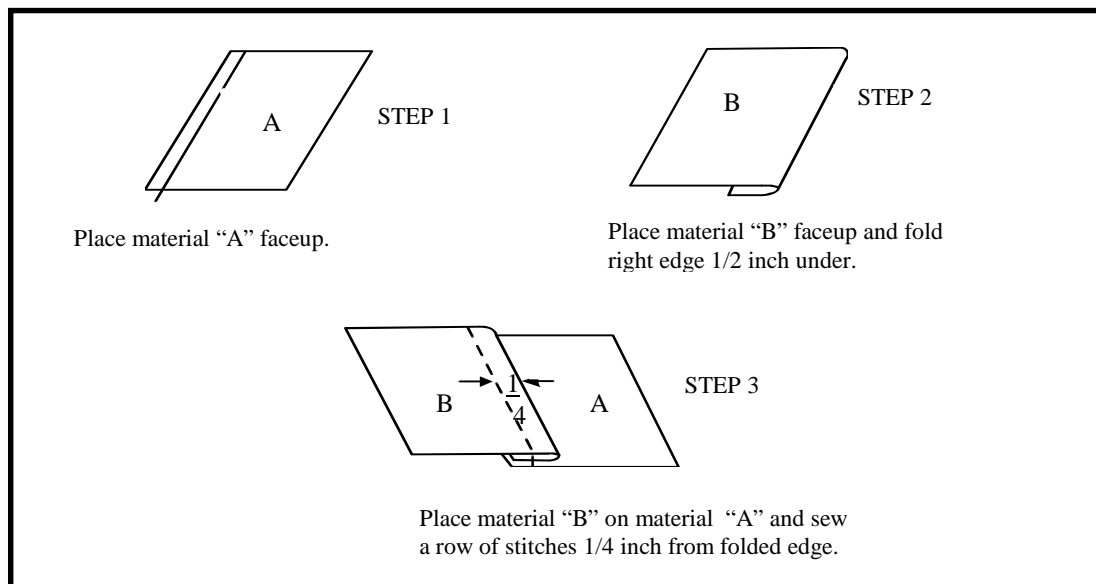

Figure 3-10. Seam type 2
c. Seam Type 2. Seam type 2 (Figure 3-10) is a lapped seam. It is used to sew a patch-type pocket on shirts, jackets, and coats. This seam is also used to sew plackets on shirt sleeves and to attach a zipper on the left side of a fly front. To make seam type 2--
- (1) Cut an 8- by 8-inch piece of material into two pieces 4 inches by 8 inches.
- (2) Place the two pieces of the material on a table face up.
(3) Mark both pieces of the material 1/2-inch from edge (on the 8 inches length) across length of material.
(4) Fold under edge of one piece of the material on the 1/2-inch mark and place it on the marking on the second piece of the material.
(5) Place the materials on the machine and stitch down the entire length of the material 1/4 inch from the folded edge.
(6) Tack the stitch lines at both ends with a 1-inch tack (no less than 7/8-inch or no more than 1 1/8 inches).
(7) Press the seam area with an iron.